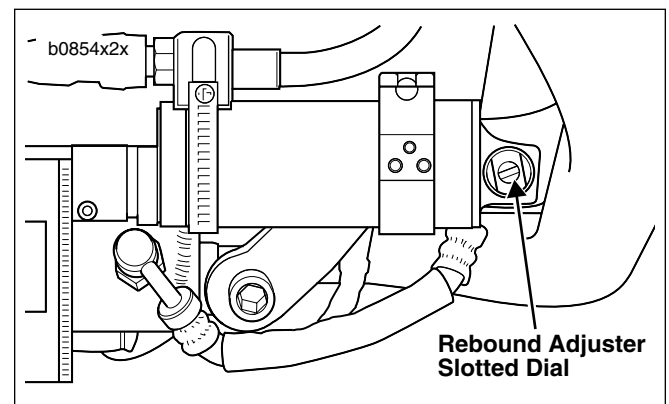

Figure 6. Rebound Adjustment
8. See Figure 6. Set rebound damping using the slotted dial on the remote reservoir at the front of the shock. New factory setting is as listed below: